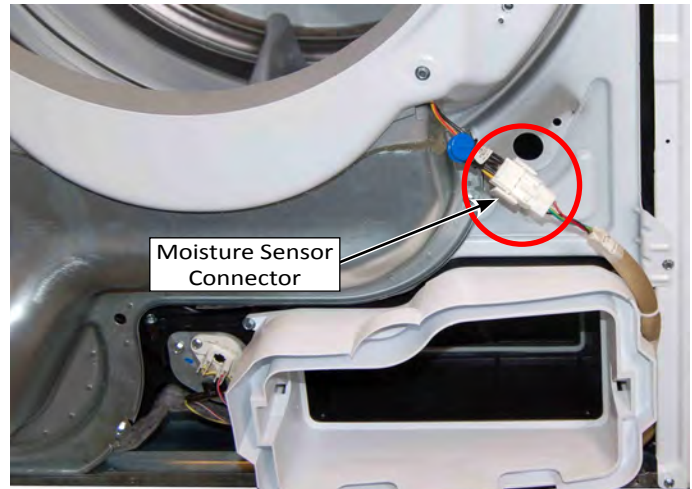

Figure 3
7. Disconnect Moisture Sensor connector (see Figure 3).